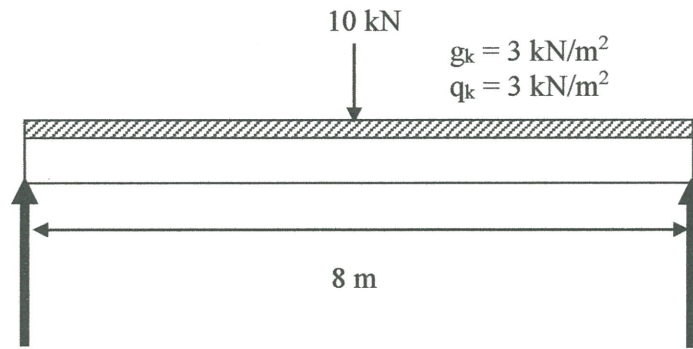

FIGURE Q3: A simply supported steel beam
- (b) A simply supported steel beam is fully restrained along its length as shown in Figure Q3. The beam supports uniformly distributed characteristic dead and imposed loads of 3 kN/m each, as well as a characteristic imposed point load of 10 kN at mid span. Use the given data as follow: